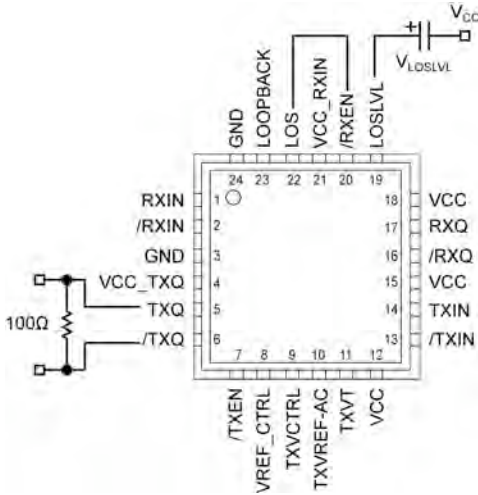

Figure 2a. Voltage Source Implementation
The SY58620L features a chatter-free Loss-of-Signal (LOS) TTL compatible output with an internal 4.75kΩ pull-up resistor. LOS circuitry monitors the input receiver signal and asserts a signal when the input signal falls below the threshold set by the programmable LOS level set pin (LOSLVL). When the amplitude of the receiver input signal falls below the threshold, LOS is asserted HIGH with a response time of ~0.2μs. LOS can be fed into /RXEN to maintain output stability by disabling the output during a Loss-of-Signal condition. Figure 2a and 2b shows the LOS connection to /RXEN. When /RXEN is HIGH, the output signal RXQ is held LOW and /RXQ is held HIGH. Typically, 2dB of LOS hysteresis is adequate to prevent the receiver output from chattering. LOS operation is optimized for data rates ≥622Mbps with an input receiver amplitude of at least 10mV (20mVPP). Due to the long time constant in slower data rates below 622Mbps, the SY58620L LOS function does not guarantee chatter-free operation for low amplitude signals.
between VCC and VREF (an internal voltage source set at VCC-1.3V), since there is a 2.8kΩ internal resistor connected between LOSLVL and VREF. The input voltage range of LOSLVL ranges from VCC to VREF. See the “Functional Block Diagram” section and Figures 2a and 2b, to see how RLOSLVL sets up a voltage divider between VCC and VREF. Refer to the “LOS Output DC Electrical Characteristics” table and “Typical Operating Characteristics” section to see how different RLOSLVL values affect LOS sensitivity.
- Connecting the input /RXEN to the LOS output as shown in Figures 2a and 2b, maintains receiver output stability under a Loss-of-Signal condition